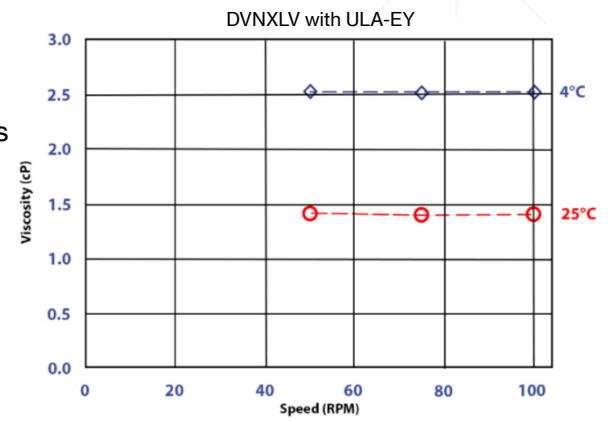

Figure 1
- Figure 1: Displays constant viscosities at both temperatures over the speed range.
- The viscosity of apple juice decreases with increasing temperature, demonstrating Newtonian flow characteristics as shown in Figure 1.